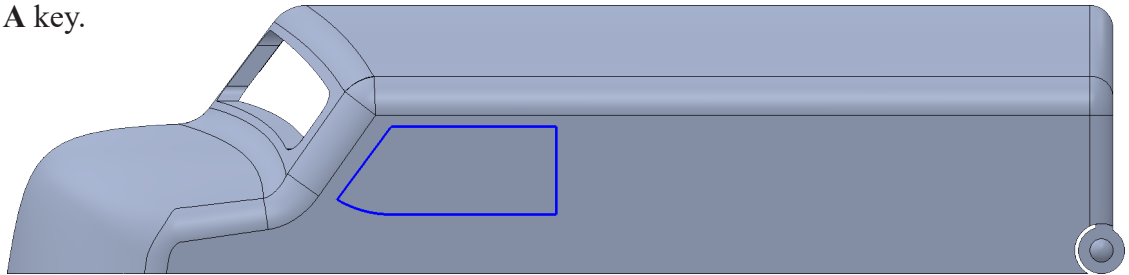

Fig. 54
Step 4. Just rear of the front pillar towards bottom, start sketch. Sketch 4 lines. Autotransition to Tangent Arc tool and sketch arc back to starting endpoint, **Fig. 54**. To autotransition to arc, after sketching endpoint of line, move cursor away and back. The preview shows a tangent arc. Click to place the arc.